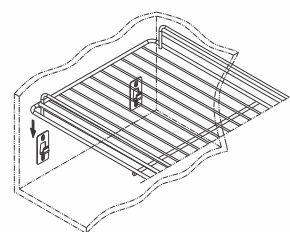

Fig. 3
4. Hang the racks as shown in Fig. 3.